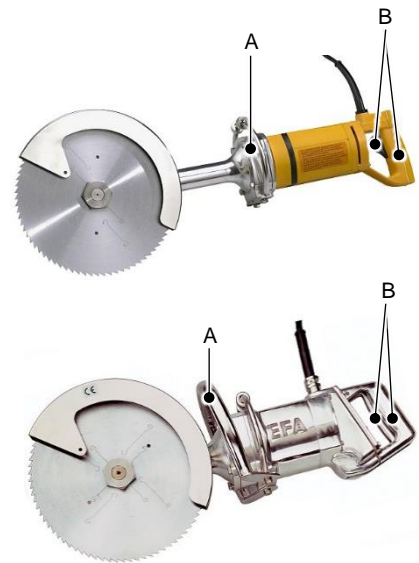

Fig. 6.1 – Switch operation
To switch on, press the switch, see Fig. 6.1.
Switch-on safety device (D) in rest position (OFF mark at **red dot**), see Fig. 6.1 Switch operation.